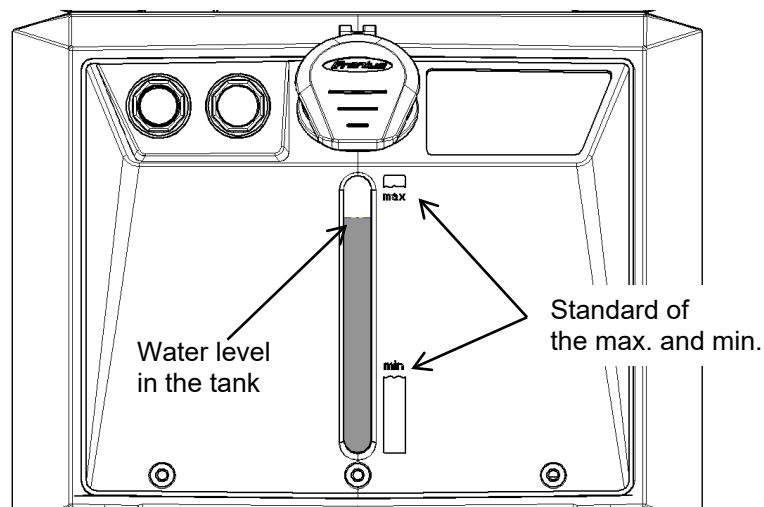

Fig. 5.2.9 (a) Check the water level of the coolant
- 1 From the water cooling unit front window, check the water level is in the normal area as shown in Fig. 5.2.9 (a)